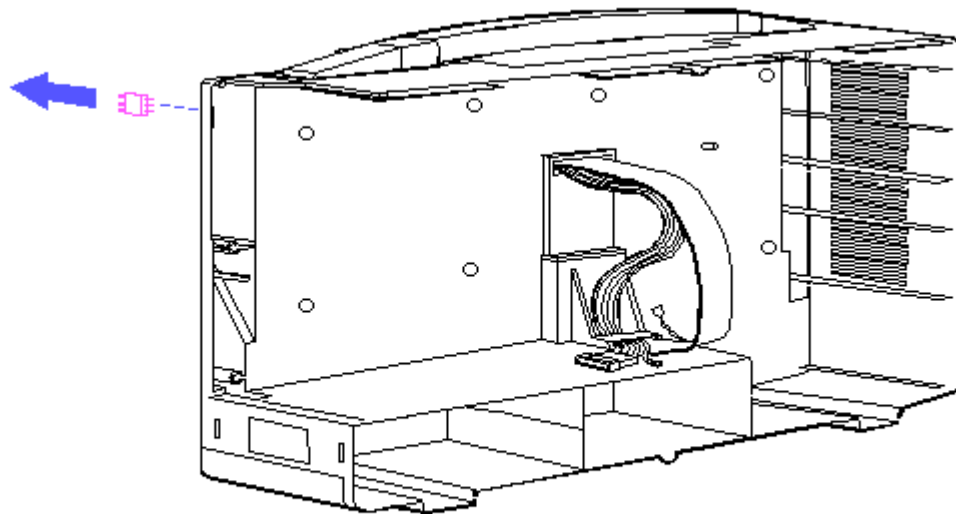

Figure 8-67. Removing the LED Assembly
17. Push the LED assembly forward and snap it out (Figure 8-67).